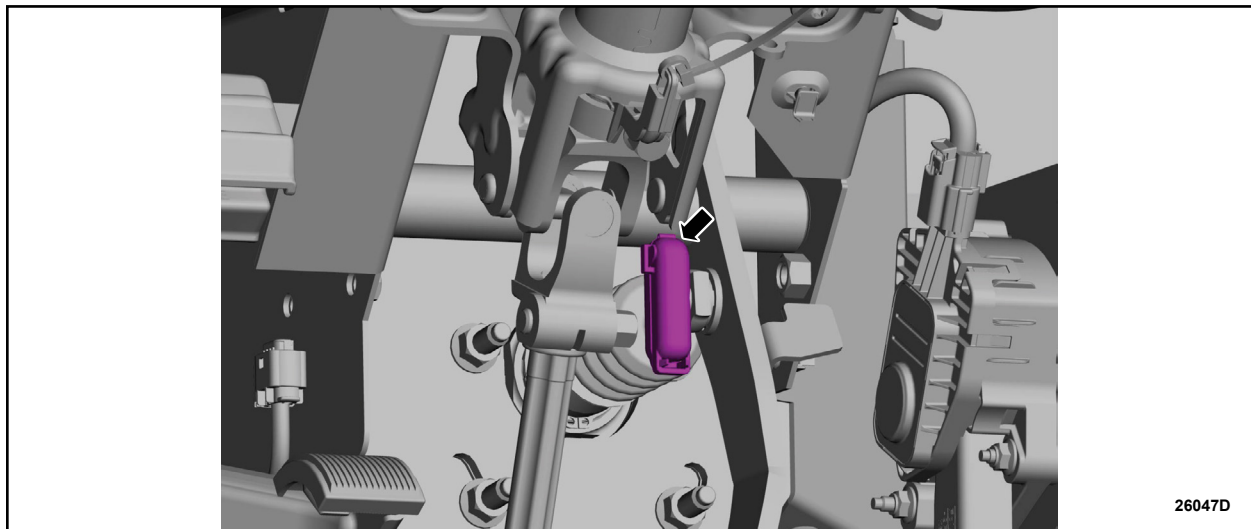

FIGURE 5
13. Remove the redundant self-locking clip cover. See Figure 5.